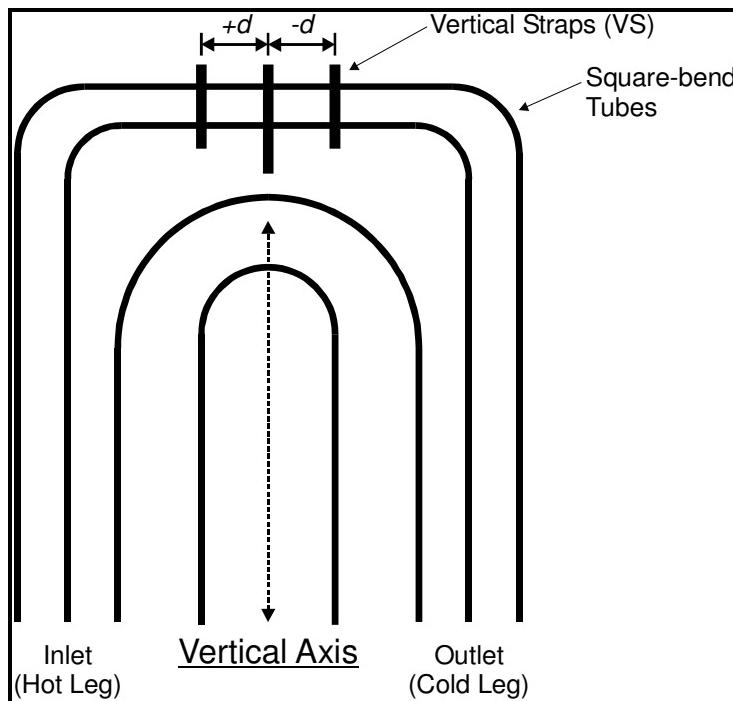

Figure 32. Determining Location Values for Vertical Straps in a Landmark Table
Vertical straps toward the inlet (hot) leg are positive values while those toward the outlet (hot) leg are negative values. See Figure 32 for clarification.
- First Square Ubend:** Enter the first row where the tubes change from normal U-bends to square-bends. Figure 32 points out the concept of square-bend tubes. If these types of tubes do not exist in the component, set this field to a large number, i.e., 999 (*default*). In addition, if **Has Ubends** on the **Parameters** tab is disabled, this field will be ignored.